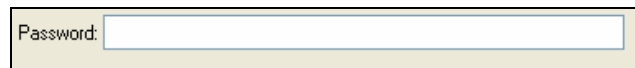

Figure 1.5.3
2. Click on the Password box and type in your password (Figure 1.5.3).